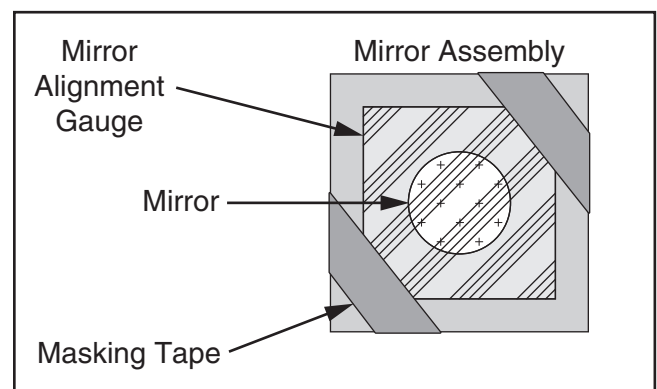

Figure 101. Mirror alignment gauge installed.
21. Place mirror alignment gauge in front of Mirror #2 and hold in place with masking tape, as shown in **Figure 101**.